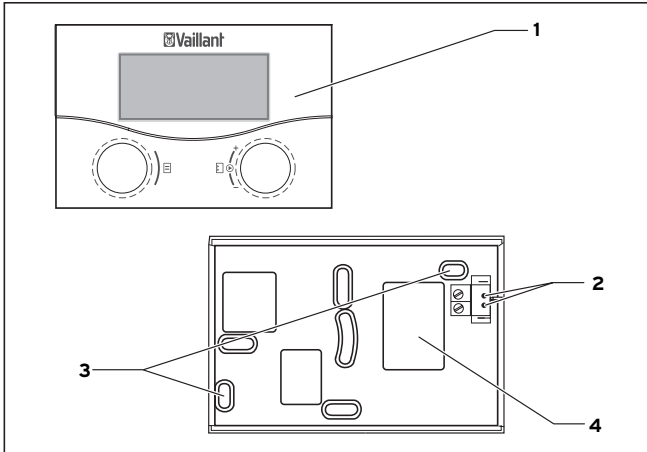

Fig. 3.2 Installation as a remote control device
- Drill two fixing holes (3), diameter 6 mm, as shown in Fig. 3.2 and insert the supplied wall plugs.
- Guide the connection cable through the duct (4).